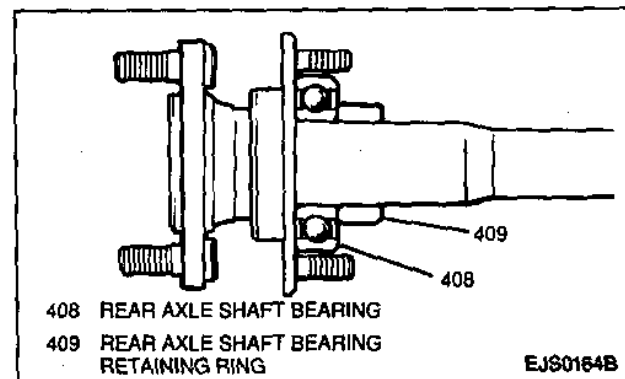

Figure 16—Rear Axle Shaft Bearing Retainer Ring Position
5. Rear axle shaft bearing retainer ring onto the rear axle shaft using a J 22912-01 and a hydraulic press. With the concave side facing away from the rear axle shaft bearing retainer ring, place the J 22912-01 on the rear axle shaft below the rear axle shaft bearing retainer ring. Then place the rear axle shaft in a hydraulic press and slowly press the rear axle shaft bearing retainer ring past the shaft taper to its original position behind the rear axle shaft bearing (Figure 16).